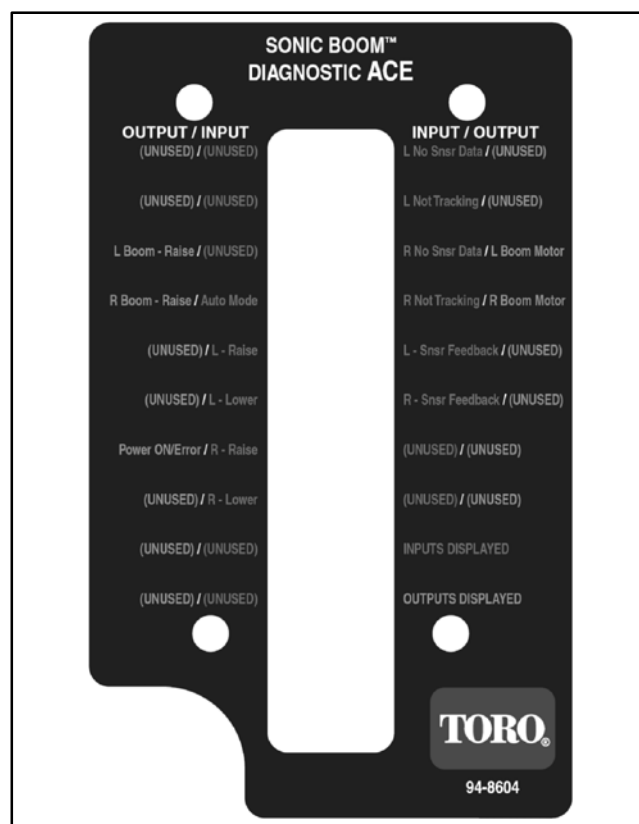

Figure 7
3. Connect the Diagnostic Display connector to the wire harness connector. Make sure correct overlay decal is positioned on the Diagnostic Display (Fig. 7).